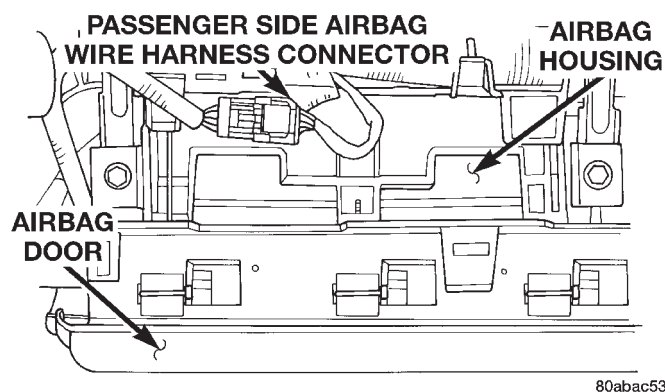
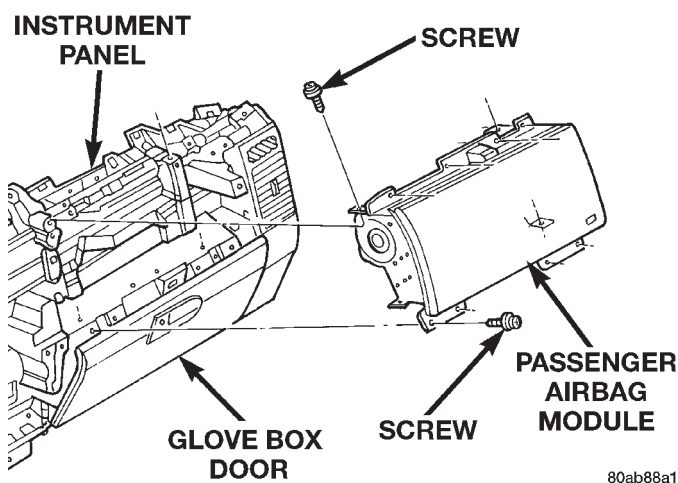

Fig. 5 Passenger Side Airbag Connector Remove/Install
Fig. 6 Passenger Side Airbag Module Remove/Install
(1) Disconnect and isolate the battery negative cable. If the airbag module has not been deployed, wait two minutes for the system capacitor to discharge before further service.
(2) Remove the instrument panel top cover. Refer to Group 8E - Instrument Panel Systems for the procedures.
(3) Unplug the passenger side airbag module wire harness connector located on the top of the instrument panel between the airbag module and the windshield (Fig. 5).
(4) Disengage the passenger side airbag module wire harness connector retainer from the hole on the top of the instrument panel.
(5) Remove the four screws that secure the upper flange of the passenger side airbag door to the instrument panel (Fig. 6).
(6) Remove the two screws that secure the upper airbag module mounting brackets to the top of the instrument panel.